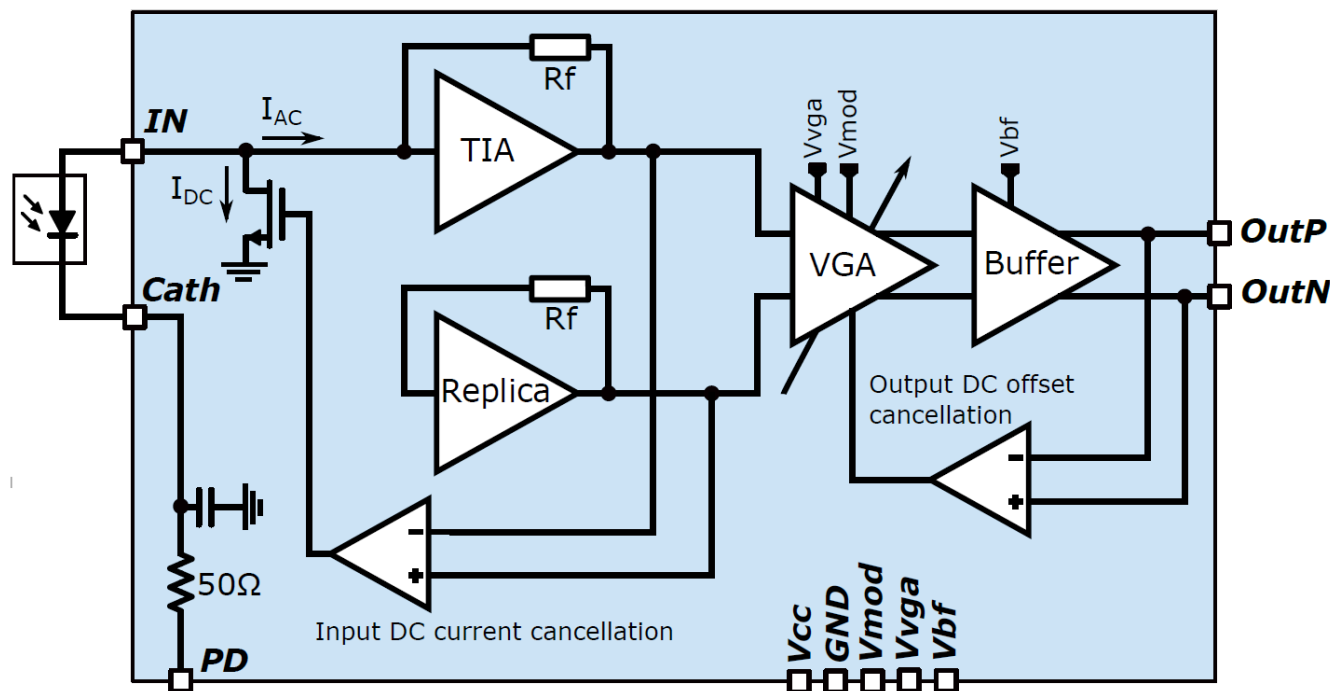

Figure 1. Simplified block diagram of the IC
The block diagram of the T56-150 is shown in Figure 1. It consists of three stages: an input transimpedance stage (TIA), a variable gain amplifier (VGA) and a 50Ω output buffer. The IC has single-ended input (IN) and differential output (OutP OutN). A replica TIA provides the VGA with DC-balanced inputs. A bias path for the photodiode is provided on-chip through the pin (PD) and cathode (Cath) that includes a low pass filter in order to damp eventual oscillations. The IC is operated with 3.3 V supply (VCC and GND) and equipped with various analog control pins (Vmod, Vvga, Vbf). Vmod defines the gain of the VGA and Vvga and Vbf serve to control the biasing currents of the VGA and output buffer stages, respectively. In typical operation Vvga and Vbf should be connected to Vcc; control on these parameters allows for optimization to accommodate deviations in the load characteristics or assembly tolerances.